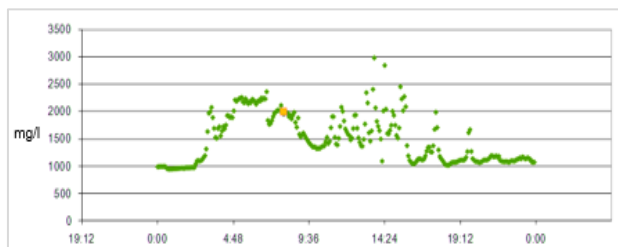

Figure 2: Example of Variability in Centrate TSS. Image by Valmet
- Increase in data accuracy and improvements in subsequent operational changes through real-time measurements. Many plants take infrequent grab samples of various process streams and make process changes based on those few samples. As shown in Figure 2, there can be substantial variability in some solids processes so non-representative sample results can lead operators to make process changes that may not be optimal.